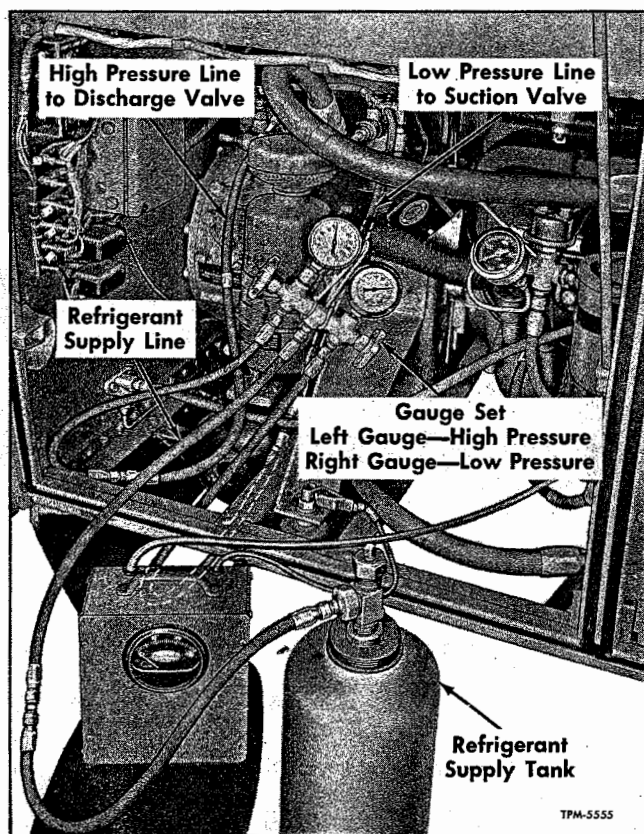

Figure 47—Method of Charging the System
1. Remove cap from compressor suction valve stem and turn valve stem out to backseated position. Remove cap from gauge port on suction valve tee and connect line from refrigerant tank through gauge to gauge port (fig. 47), leaving the connection loose. Crack tank outlet valve to permit refrigerant gas to expel all air from gauge line, then tighten connection.